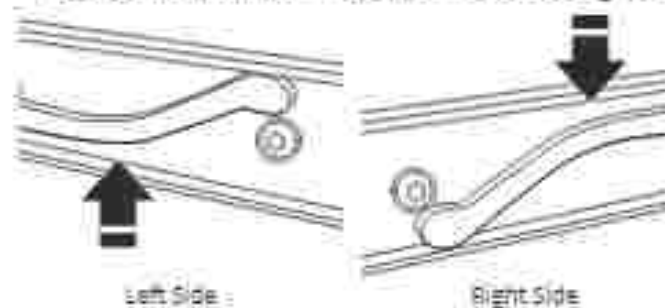

Figure 1
8. Remove the drawer by releasing the tab on each side. With your finger, push down the tab on the right side of drawer, and up on tab on left side of drawer. See Figure 1.